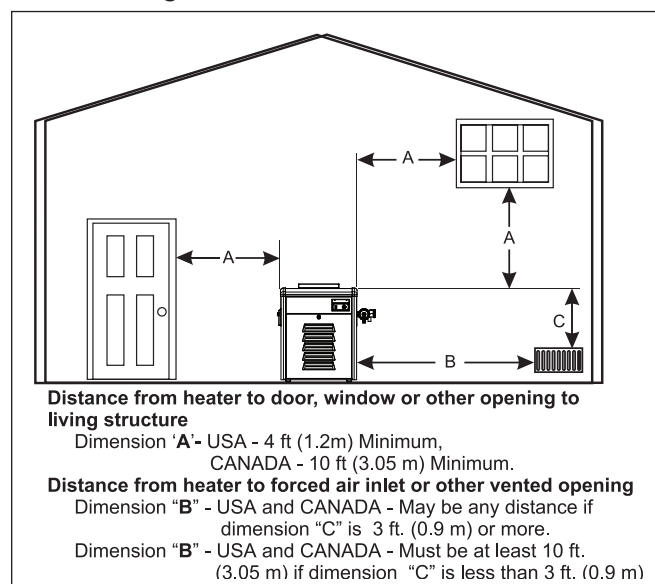

Figure 3. Outdoor Heater Installation
ing, even though the access might be through another structure (e.g., a garage or utility room). In the United States there must be a minimum of four (4) feet (1.22 m) horizontally **or** four (4) feet (1.22 m) vertically between the heater exhaust point and any door, glass opening, or gravity inlet to a building. In Canada, the heater must be installed so that the exhaust point of the heater is at least ten (10) feet (3.0 m) from any building opening (see Figure 3).